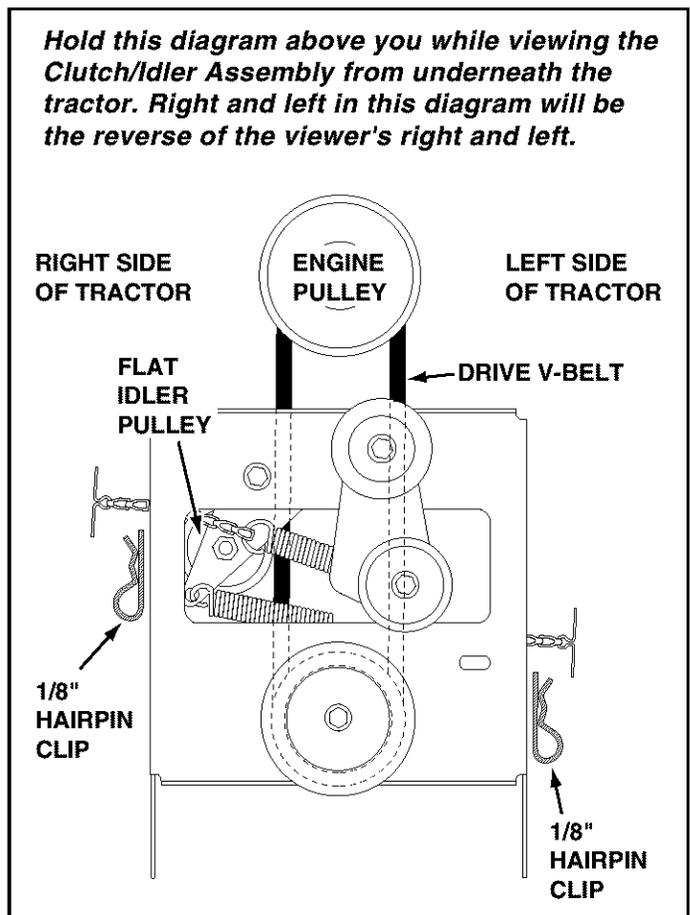

FIGURE 16
- Remove the two **outside** 1/8" hairpin clips which are assembled to the L.H. and R.H. tension adjusting chains outside of the clutch idler assembly frame. (The clips will be reinstalled after both belts have been assembled.) **Do not remove** the 3/32" hairpin clips assembled to the chains on the **inside** of the assembly frame. See figure 16.
- Assemble the drive belt onto the tractor's engine pulley and then onto the upper rear pulley on the clutch/idler assembly. Keep the flat idler pulley on the outside of the belt. See figure 16.